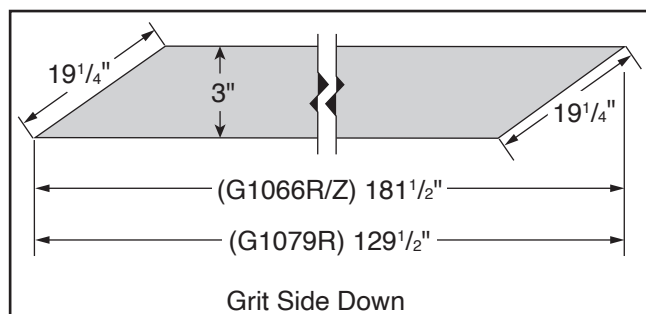

Figure 26. Sandpaper pattern.
5. Use old sandpaper as pattern or use example in **Figure 26** to cut new one.